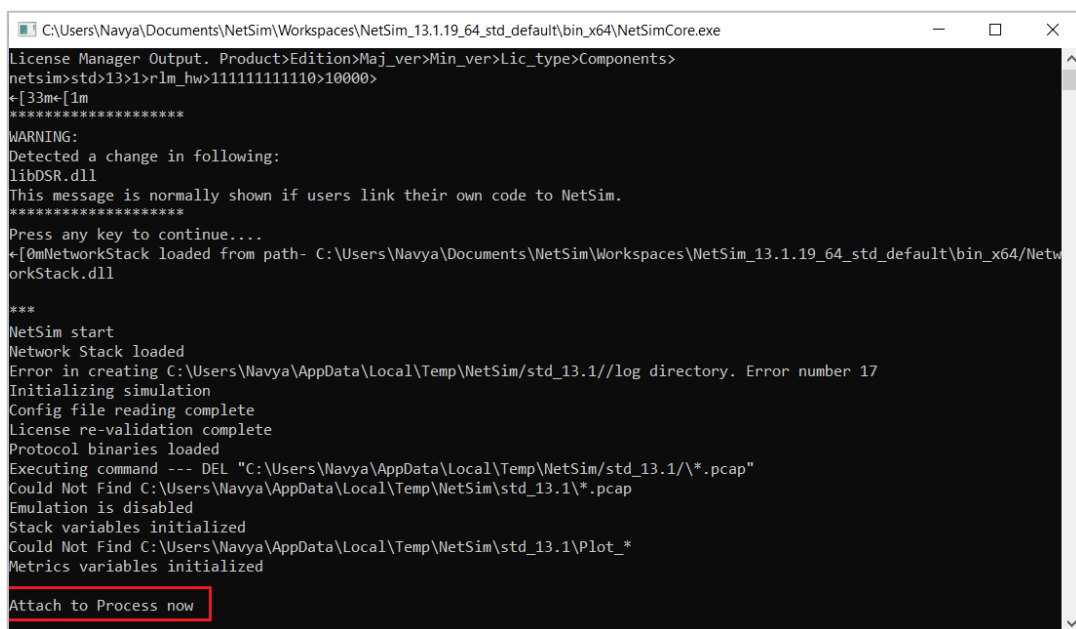

Figure 9-15: Attach to Process Statement written to console
Step 1: Perform the required modification of the protocol source code and add _getch() (used to hold the program execution until the user enters a character) statement inside init function of the modified protocol. For example, take DSR protocol and add the following lines of code in the init function as shown in the below screenshot Figure 9-15.